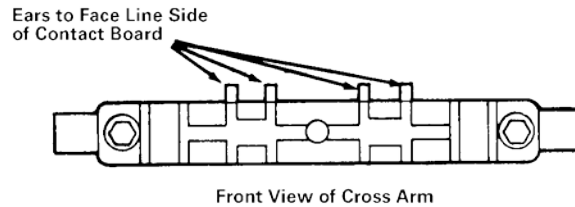

Figure 3
1. Assemble springs **B** and cross arm **A** in contact board. Note that the ears on the cross arm must face toward the line side of the contact board as indicated in Figure 3.